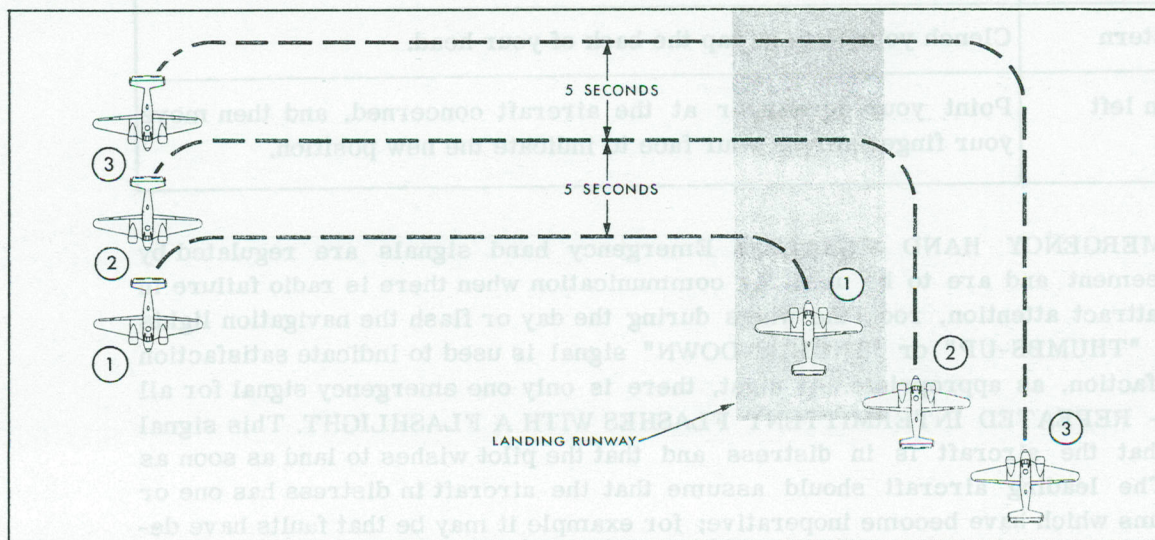

Figure 6. A 180-degree Break
(1) Before entering the circuit, the leader should place the formation in echelon opposite to the direction of the circuit pattern (ie, for a left-hand circuit - echelon right). A five-second "break" should be sufficient to space the aircraft behind the leader. The break should consist of two 90-degree turns (Figure 6). After the break, the formation is no longer a compact unit; therefore EVERY AIRCRAFT CAPTAIN IS RESPONSIBLE FOR HIS OWN LOOK-OUT and spacing. Normally the leader should land on the side of the runway nearest the circuit (ie, on the inside) while Numbers 2 and 3 take opposite sides to the aircraft in front of them. In a strong crosswind however, the leader should land on the downwind side of the runway with the following aircraft taking alternate sides. This prevents the slip-stream from the preceding aircraft affecting the landing of the following aircraft.
(2) The leader may decide not to "break" over the runway; if this is his decision, he may instead lead the formation to cross the runway in echelon at 90 degrees and then "break" onto the downwind leg. When this method is used, pilots in the formation should increase the timing between their aircraft a little, since there are less turns to be made for spacing purposes.